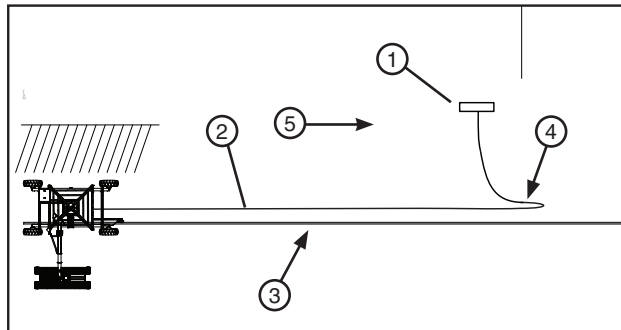

Figure 70-1 1. Power Pedestal
- (b) Position the electric cord between the cart wheel tracks. To prevent interference between the electric cord and cart tires, bury the electric cord in the area where interference will occur or when applicable. See figure 70-1.
- (c) Position the electric cord far enough away from the hose, so that the hose will not drag over it. To prevent interference between the electric cord, cart tires and hose, bury the electric cord in the area where interference will occur or when applicable, position the electric cord over the top of hose. See figure 70-1.